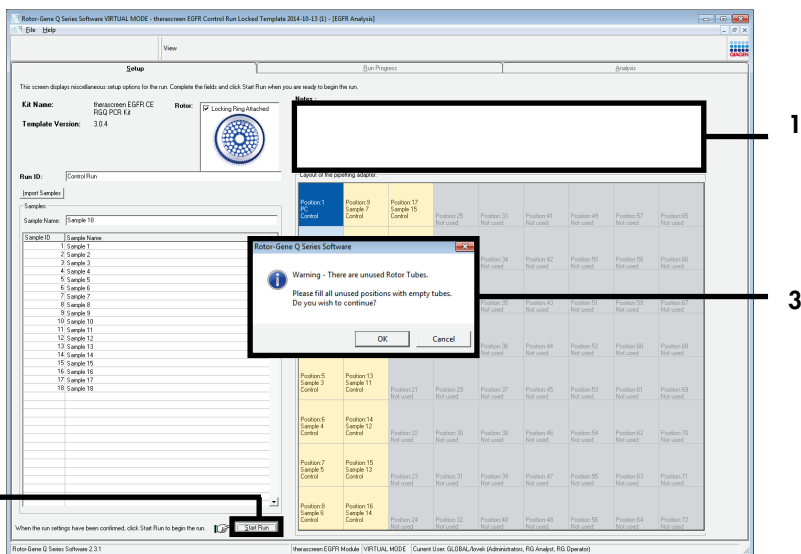

Figure 5. “Notes” dialog field (1), “Start Run” button (2) and “Warning” of unused rotor positions (3).
16. When all sample names are entered, verify that they are correct. Add any additional information in the **Notes** field if necessary, then click **Start Run** (Figure 5).
**Note:** If any rotor position is unused, a “Warning” will appear (Figure 5) to remind the user that all unused positions on the rotor must be filled with capped, empty tubes. Check that all unused rotor positions are filled with capped, empty tubes and click **OK** to proceed. The “Save As” window will open.